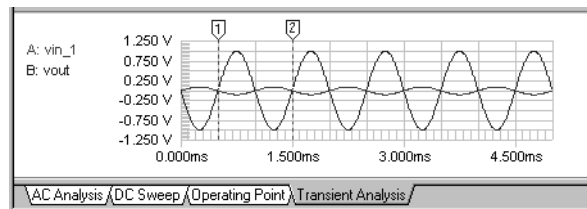

Figure 3.17. Transient Analysis waveforms with cursors 1 and 2 measuring frequency.
- 11 In the Panel, select the vout waveform for **measurement cursor 1**. Cursor 1 is displayed on the Transient Analysis chart. Click on the cursor and drag it to *first* rising edge of the vout waveform at the point where the waveform crosses 0V. Notice as you drag the cursor that its X and Y values (displayed in the Panel) change with the position of the cursor on the waveform. To nudge the cursor, click on it once to select it, then press the left or right arrow keys on the keyboard. For a fine nudge, hold down the Shift key while nudging with the arrow keys. See Figure 3.17.
- 12 In the Panel, select the vout waveform for **measurement cursor 2**. Cursor 2 is displayed on the Transient Analysis chart. Click on the cursor and drag it to *second* rising edge of the vout waveform at the point where the waveform crosses 0V. See Figure 3.17.